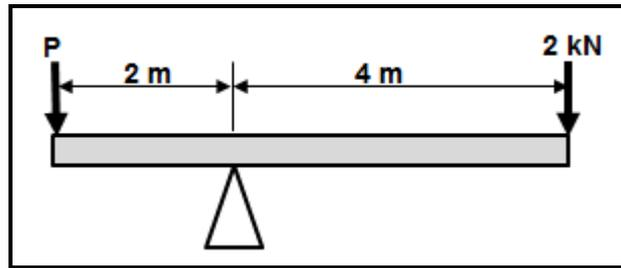

FIGURE 4.8
- D maximum allowable stress in a material to prevent it from yielding. (1)
4.8 What is the magnitude of force **P** in FIGURE 4.8 below?